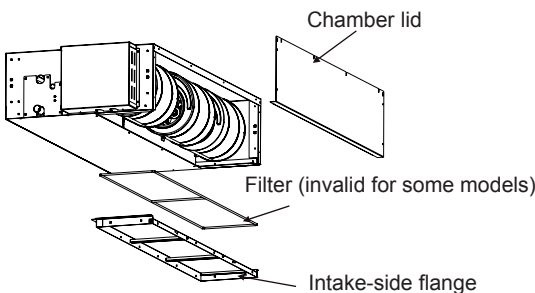

Fig. 3.1.4
- 2 Reattach the removed chamber lid in the orientation shown in Fig. 3.1.4.